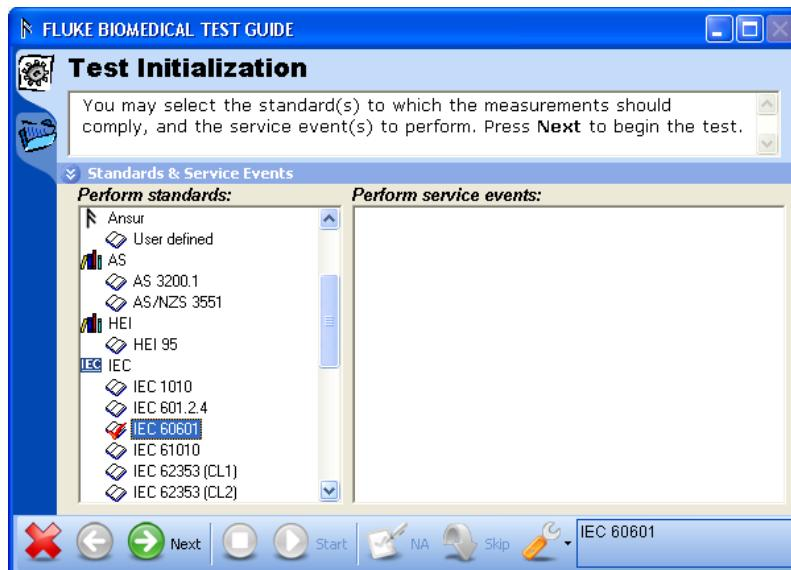

Figure 3-5. Test Initialization Window
2. Select the standard from the list in the Test Initialization window shown in Figure 3-5 that corresponds with the selected test template. For example, if IEC 60601 test template is opened, then select 60601 standard and deselect the Ansur User Defined standard that is selected by default.